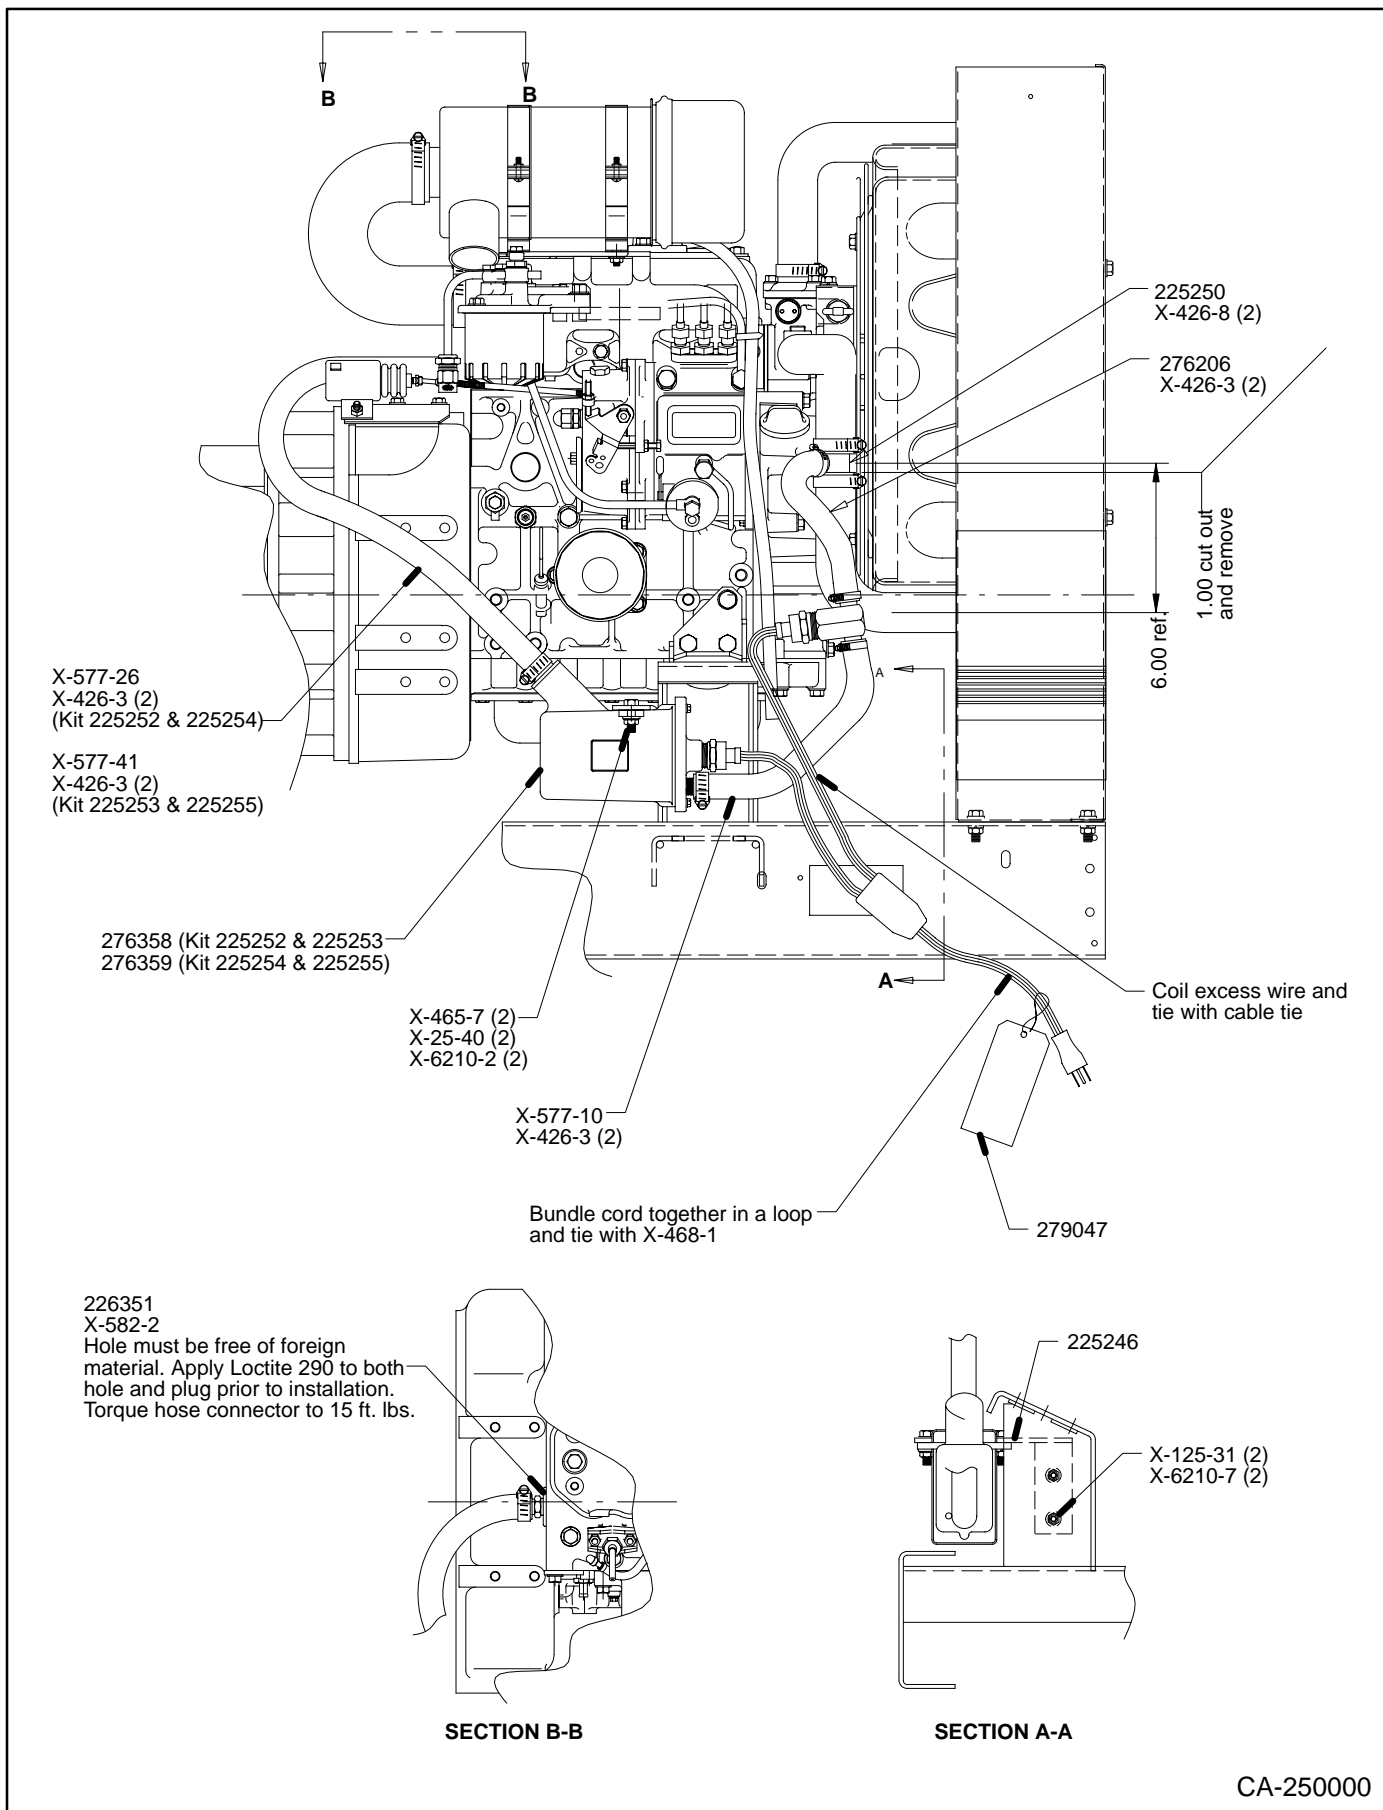

Figure 1. Engine Block Heater Kit Installation.
The following steps provide detailed instructions only in cases where an instruction is not detailed or apparent on Figure 1.
- Cut away one (1) inch (25 mm) of lower radiator hose at 3 inch (76 mm) dimension from hose end as noted on Figure 1, and install connector (225250). Secure connector to radiator hose using two hose clamps (X-426-8) as shown.
- Install heater mounting bracket (225246) and block heater (276358 or 276359), using hardware as noted on Figure 1.
- Install hoses (276206 and X-577-10) and regulator between block heater and connector (225250) as noted on Figure 1. Secure hoses and regulator using four clamps (X-426-3).
- Install freeze plug (226351) and hose connector (X-582-2) at location noted on Figure 1, Section B-B. Observe detailed instructions pertaining to this installation.
- Connect electrical cord to block heater and to regulator. Bundle cord together using cable ties (X-468-1) as noted on Figure 1.
- Attach hang tag (279047) as shown on Figure 1.